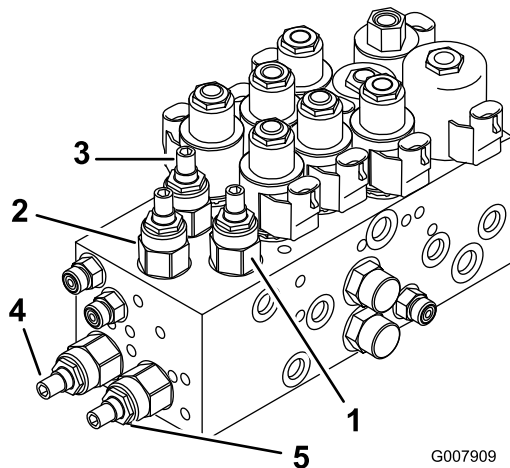
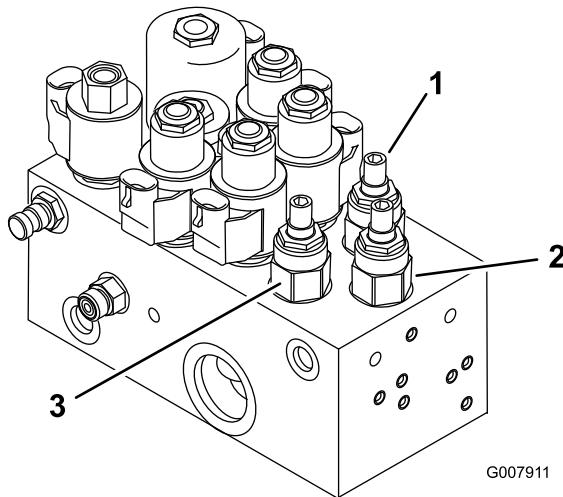

Figure 82
Figure 83
1. Locate the valves, on the lift manifold, for adjusting the desired cutting unit(s) (See chart and Figure 82 and Figure 83).